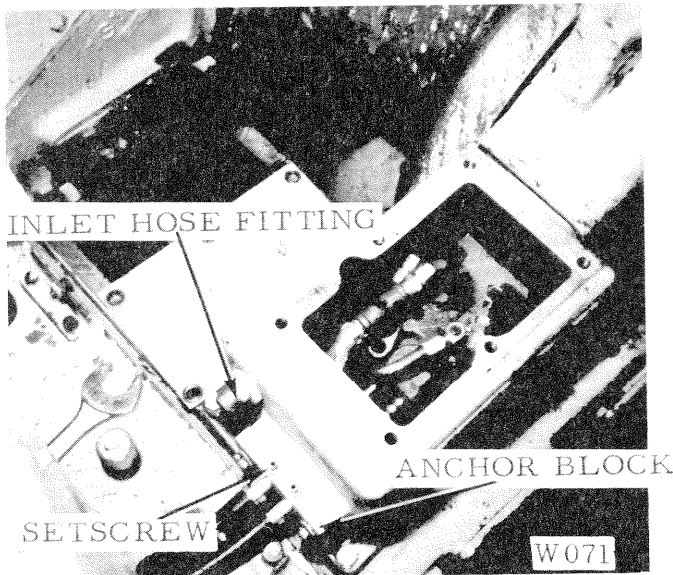

Figure 23
2. Disconnect the inlet hose from the housing. Loosen the two setscrews anchoring the cables (if preferable the anchor block may be separated from the housing). Fig. 23.